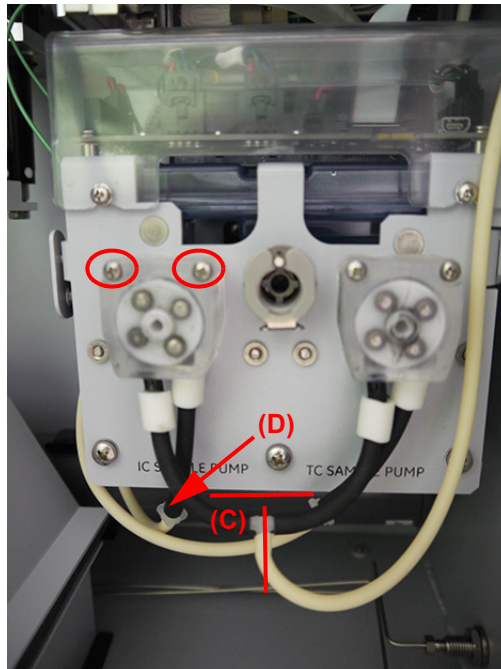

Figure 58: Sample Pump Heads and Tubing — IC Side
12. Now replace the IC pump head. Disconnect the right *inlet* tubing coming out of the pump head from the fitting at the end of the IC waste tubing **(C)**, Figure 58.
13. Disconnect the left *outlet* tubing coming out of the pump heads from the T-connector **(D)**, Figure 58.
18. Connect the left tubing end to the T-fitting **(C)**, Figure 58.
19. Connect the right tubing end to the IC waste tubing **(D)** Figure 58.